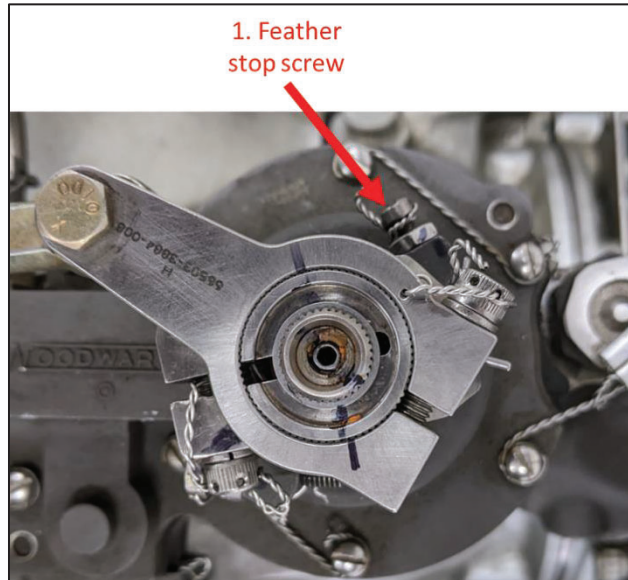

Figure 3: CSU components, top view
- (14) While still holding the assembly with the Allen key, turn the max  $N_P$  stop screw clockwise until contact is made with governor propeller speed control lever skirt. Torque the jam nut 33-38 IN-LB. Do not safety the screw yet.
- (15) Turn the feathering lift rod one turn clockwise (as viewed from above) with the Allen key.
- (16) Remove the safety wire from the feather stop screw (Figure 3, item 1), loosen the jam nut, and turn the screw clockwise 2 ½ turns. Torque the jam nut 33-38 IN-LB. Do not safety the screw yet.
- (17) Rig the propeller speed control linkage according to the Kodiak Airplane Maintenance Manual. Rigging is listed in Chapter 76. Torque the governor speed control lever retaining screw to 33-38 IN-LB prior to safetying.